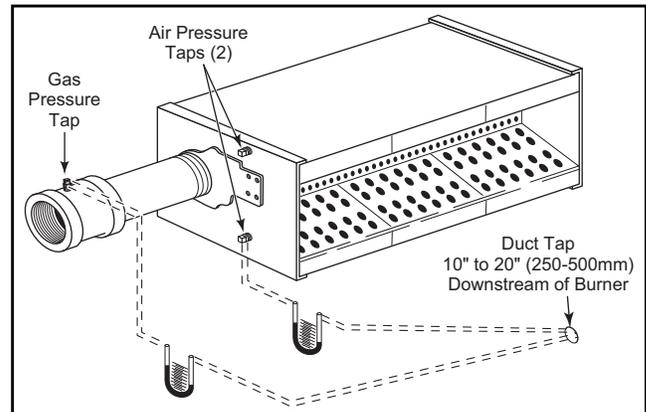

Figure 5. Pressure Measurement
Measure the air pressure drop across the burner as shown in Figure 5.
**Large Burners Only:** Some models, such as the 640, 680, and 720 TAH-R burners, contain a butterfly valve in the check valve line as shown in Figure 6. On these models, after setting the air flow as described in the previous paragraph, measure the air pressure drop between the gas pressure tap and the duct as shown in Figure 5. Gas flow must be off. Adjust the butterfly valve to produce an air pressure drop of 0.2 "w.c. (0.5 mbar).
Measure the gas differential pressure as demonstrated in Figure 5.